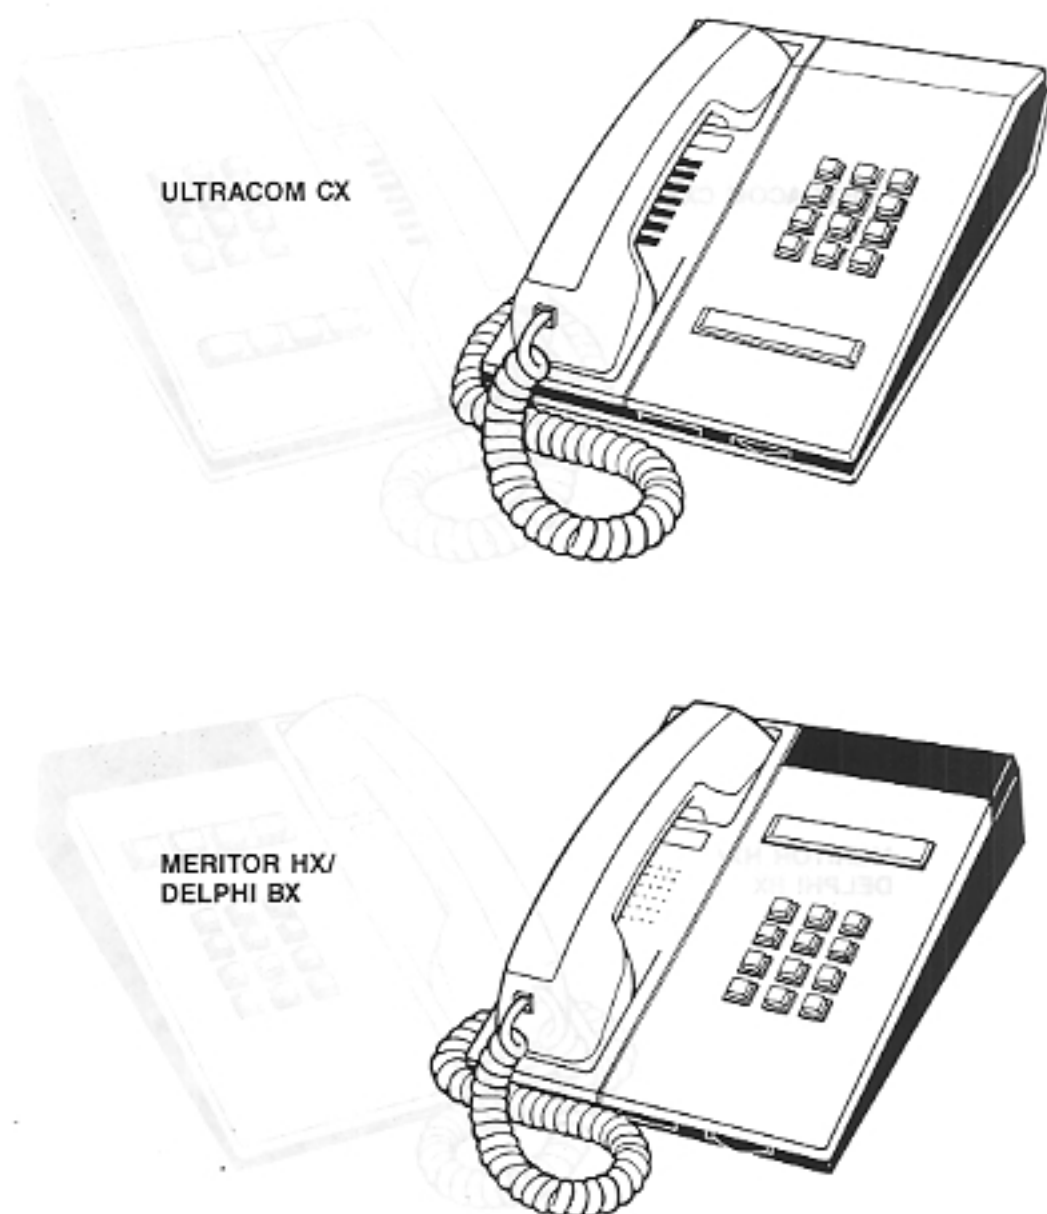

Figure 1-7 ONE BUTTON SINGLE LINE TELEPHONE, TCX-128
2.18 The One Button Single Line Telephone (Figure 1-7) is a single line telephone that allows a wide variety of system features to be accessed by dialing access codes or pressing the HOLD/TRANSFER bar. The One Button Single Line Telephone is automatically connected to an Intercom circuit when the telephone is idle and the handset is lifted.